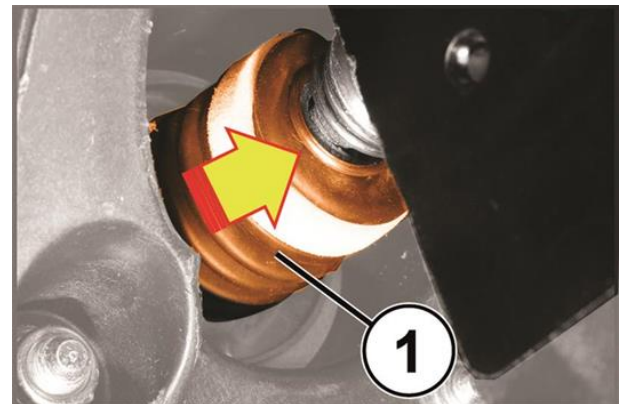

Figure 4 – Dust Boot
6. Carefully pull out the dust boot with filter (1) in the direction of the firewall and remove it. This provides access to the push rod and spring (Figure 4).